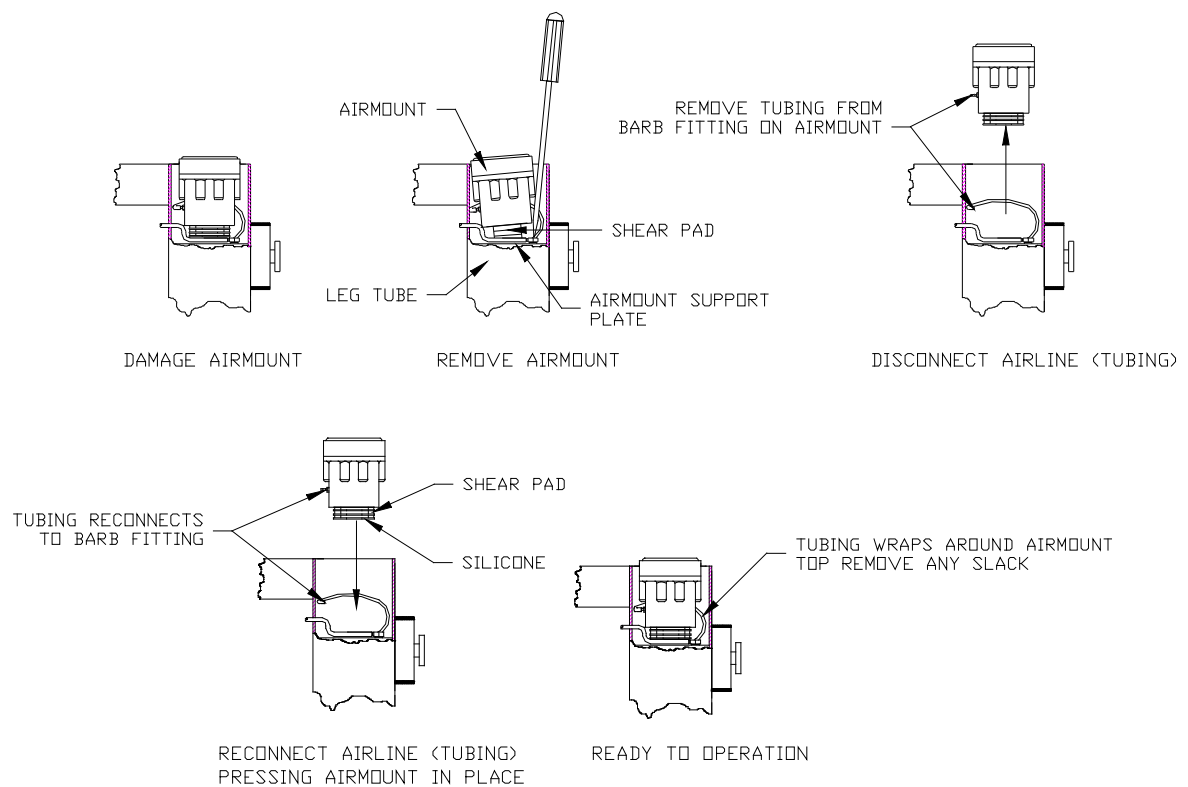

Fig. 16 9101/9102 and 9211 Replacement Airmount.
2. Remove airmount by using the long flat head screwdriver by gently prying from all sides of the airmount (as shown on Fig. 16.)